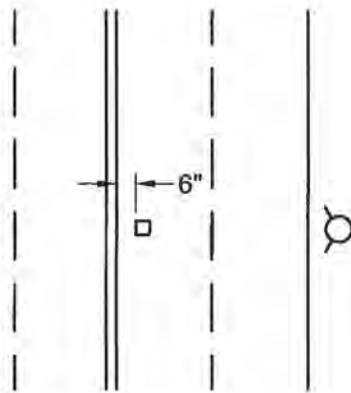

FIGURE 2
- ① 18" WHERE CURB/SIDEWALK ARE INTEGRAL, 24" IN AREAS WITH PARKWAY
- ② 6 - HOLLOW BREAKWAY BOLTS WITH NUTS ON UPPER FLANGE (SEE DETAIL 2)
- ③ 6" DIAMETER FLANGED "SPOOL" TO GROUND AS REQUIRED
- ④ 6"x36" WITH FLG. RISER AND MECHANICAL JOINT OR APPROVED EQUAL
- ⑤ MECHANICAL JOINT WITH MJ RETAINER GLANDS
- ⑥ POUR THRUST BLOCK AGAINST UNDISTURBED SOIL PER STD. PLAN 116, FIG. 2
- ⑦ PIPELINE PROTECTIVE COVERING
- ⑧ VALVE BOX AND COVER PER STANDARD PLAN 104
- ⑨ 6" D.I.P. OR PVC.
- ⑩ HYDRANTS TEE U-590, AS MANUFACTURED BY U.S. PIPE FOUNDRY CO. OR APPROVED EQUAL. OTHERWISE, HYDRANT TEE SHALL BE MECHANICAL TYTON JOINT x 6" FLG. TEE
- ⑪ 6" FLANGE x MECHANICAL JOINT OR FLANGE RESILIENT WEDGE GATE VALVE
- ⑫ WATER MAIN
- ⑬ BLUE REFLECTOR. SEE SHEET 2
- ⑭ FINISHED PAVEMENT